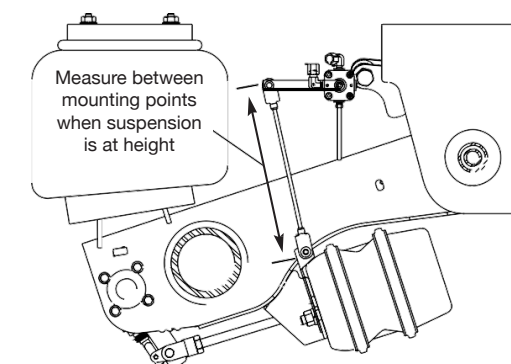

Figure 3. Measurement for fixed clamp installation
1. Measure the distance from the center of the control arm mounting hole to the center of the lower mounting bracket hole (Figure 3).